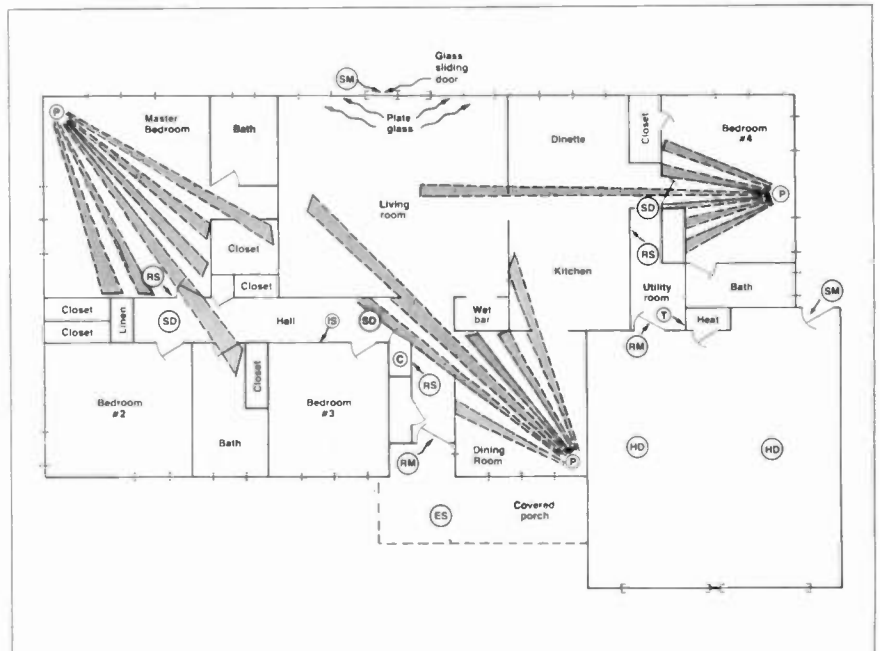

Figure 1: Floorplan of house showing location of alarm equipment.
With this in mind, we can sit down with our notes and sketches and design a proposed system and prepare a bid. The floorplan shown in Figure 1 is more detailed than one that would be used by most system designers. (The floorplan illustrated here is for the purpose of explaining the rationale behind the selection and placement of equipment,
The total "alarm" system, as shown in Figure 1, consists of three separate systems utilizing a single control box: (1) burglary—with a perimeter and an interior zone, (2) emergency (fire/panic), and (3) medical alert system.
By mounting the CEO 9035's as shown in Figure 1 (symbol "P"), and carefully adjusting the lens of each unit, more than one room can be protected with a single unit. The PIR mounted in the dining room, for example, will protect the dining room and the protection pattern will extend into the entry area, hallway, kitchen and living room. Again, careful adjustment of the lens is imper-